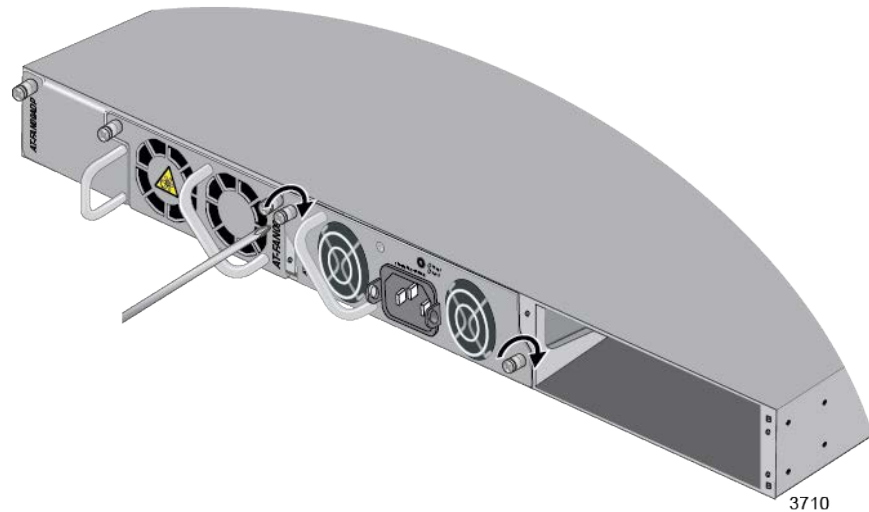

Figure 26. Tightening the Captive Screws on the Power Supply
6. Secure the power supply to the switch by tightening the two captive screws with a cross-head screwdriver. Refer to Figure 26.